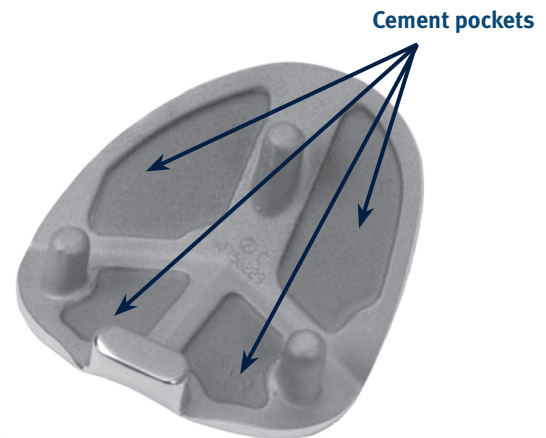

Fig. 56
- Apply bone cement to the undersurface of the PFJ Implant (Fig. 56) and/or femur as appropriate.